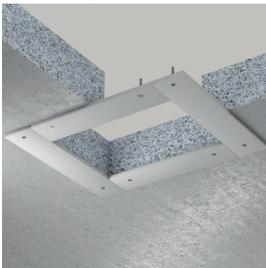

Fig. 4: Board frame for rigid floor
- / If the wall/floor in the area of the fire penetration seal does not have the required minimum thickness, either a lining (see Fig. 6) or a board frame (see Fig. 4 and 5) of non-flammable structural boards (Type F drywall acc. to EN 520 (Class A2-s1,d0 acc. to EN 13501-1) or silicate or calcium silicate boards of Class A2-s1, d0 or A1 acc. to EN 13501-1) must be provided around the opening of the fire penetration seal, so that the Fire protection foam ZZ 330 is in contact with the frame or the of the wall/floor over the entire thickness of the fire seal.